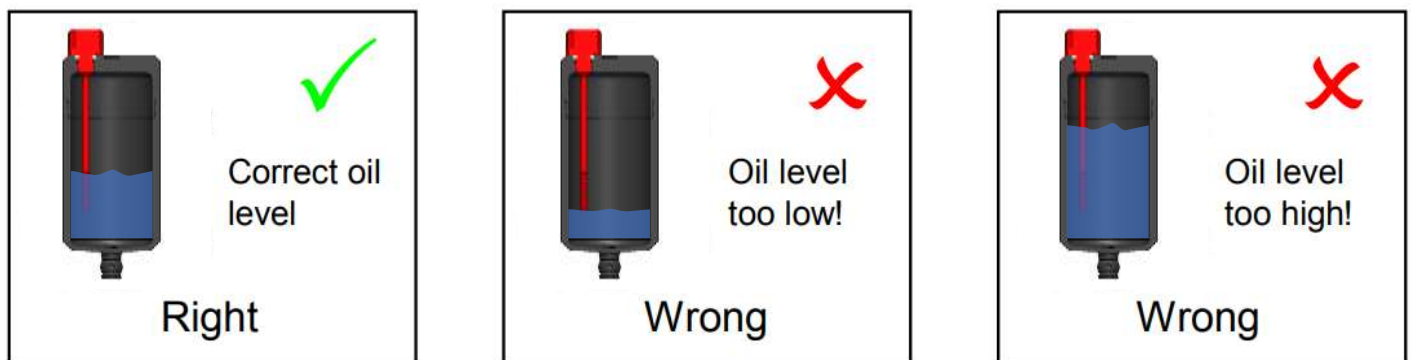

Figure 58
16. Start the engine and rev it to 2-3000 rpm and make sure the oil starts flowing by visual inspection, looking into the Oil Canister. **DO NOT REV THE ENGINE MORE THAN SPECIFIED, AS THIS CAN CAUSE DAMAGE TO THE SUPERCHARGER.** Oil flow is established when the oil level decreases immediately after start-up. Immediately after starting the engine (within 5 seconds) top up traction fluid before the oil level reaches the bottom of the canister. Check that the oil level is between the **MIN** and the **MAX** indicators on the dipstick while the engine is running at 2-3000 rpm. Note that this is the correct and only way to check the oil level (checking the oil level with the system turned off does not give a correct reading). *Figure 58.*